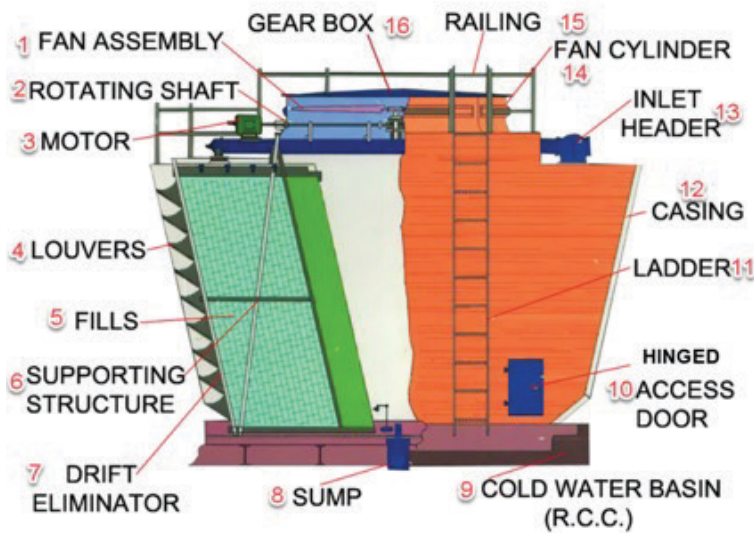

Figure 2 - Cooling Tower Major Components
- Figure 2: Courtesy of CASE GROUP. 1993. <https://www.casepl.com/coolingtowewooden-singleproduct_details.htm>. All Rights Reserved.